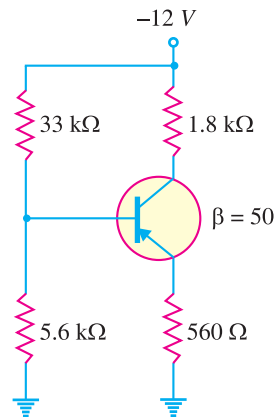

Fig. 9.57
16. (i) Determine the base voltage V_B in Fig. 9.57.
17. (i) Find the Q-point values for Fig. 9.57.
(ii) Find the minimum power rating of transistor in Fig. 9.57. [(i) 1.41 mA ; -8.67V (ii) 12.2 mW]